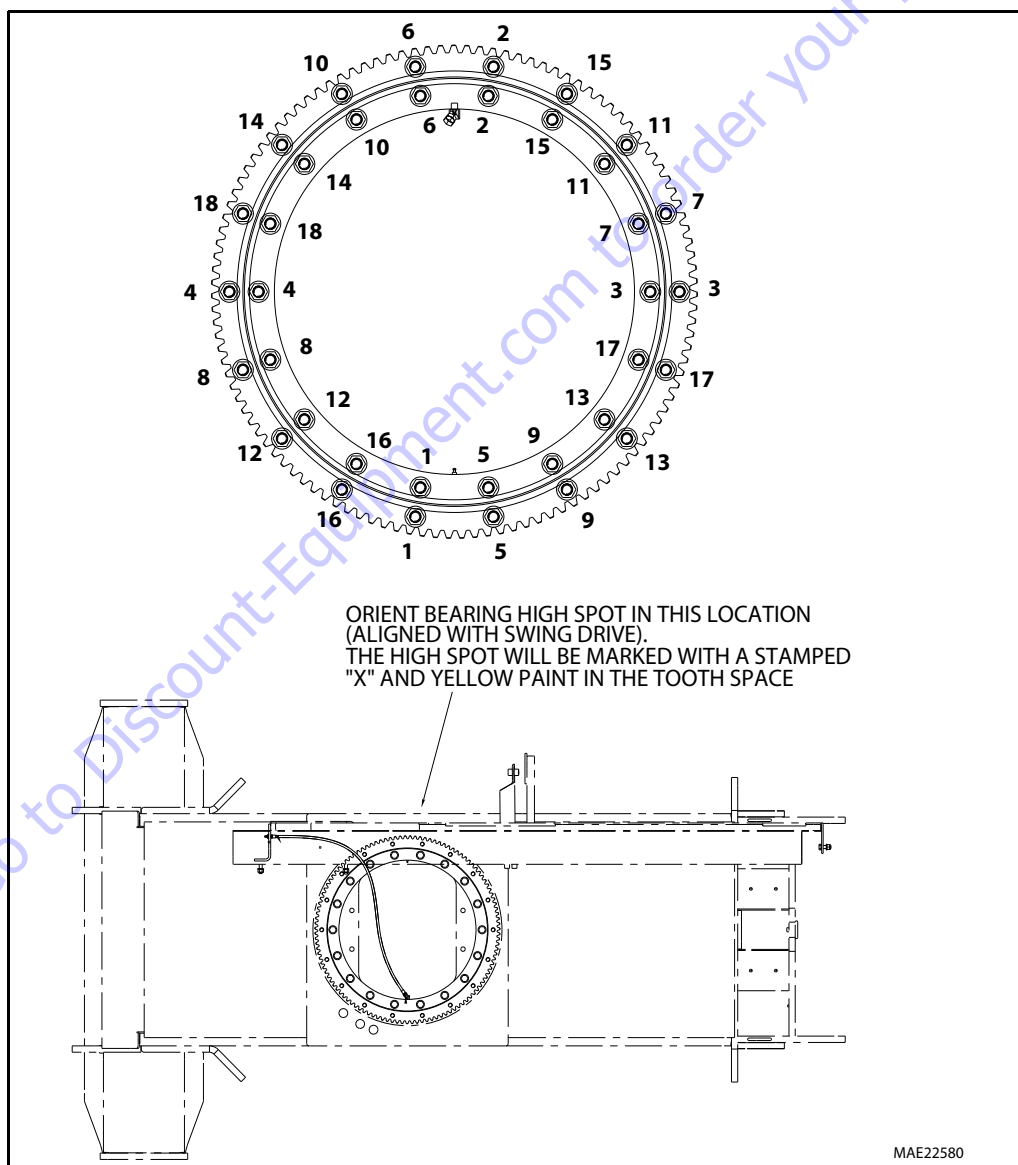

Figure 3-12. Swing Bearing Torque Sequence
3. Refer to the Torque Sequence diagram as shown in Figure 3-12., Swing Bearing Torque Sequence, Swing Bearing Torque Sequence Clean any residue off the new bearing bolts, then apply a light coating of High Strength Threadlocking Compound and install the bolts and washers through the frame and outer race of the bearing. Tighten the bolts to an initial torque of 190 ft. lbs. (260 Nm) w/Threadlocking compound.
8. Following the Torque Sequence diagram shown in Figure 3-12., Swing Bearing Torque Sequence, tighten the bolts to a torque of 190 ft. lbs. (260 Nm) w/Threadlocking Compound.
3. See Figure 3-12., Swing Bearing Torque Sequence.